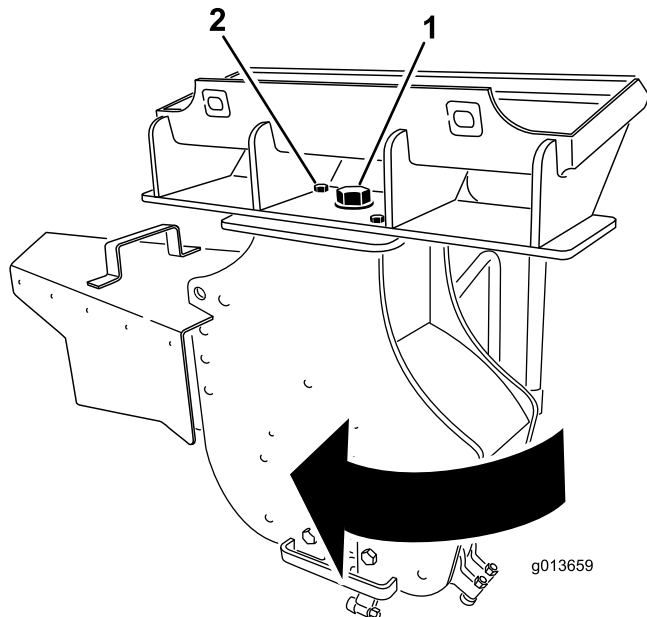

Figure 13
3. Loosen the large bolt on the top of the grinder (Figure 13).
4. Remove the front bolt and nut securing the grinder (Figure 13).
5. Swing the grinder 30 degrees clockwise (Figure 13).
6. Torque the large bolt on top of the grinder to 406 N·m (300 ft-lb) as shown in Figure 13.
7. Install the bolt and nut in the front hole and torque them to 101 N·m (75 ft-lb) as shown in Figure 13.
13. Loosen the large bolt on the top of the grinder (Figure 13).
14. Remove the front bolt and nut securing the grinder (Figure 13).
15. Swing the grinder 30 degrees counter-clockwise (Figure 13).
16. Torque the large bolt on top of the grinder to 406 N·m (300 ft-lb) as shown in Figure 13.
17. Install the bolt and nut in the front hole and torque them to 101 N·m (75 ft-lb) as shown in Figure 13.